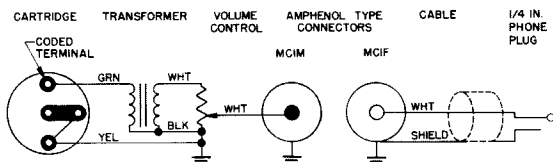

FIGURE 2
To change the phase of a microphone, the microphone cartridge leads must be interchanged (see Figure 2). This should be performed by your dealer, the Shure Factory Service Department, or other qualified service personnel.
**Phasing:** Positive pressure produces positive voltage on TIP of phone plug (see Figure 2 and Page 4).